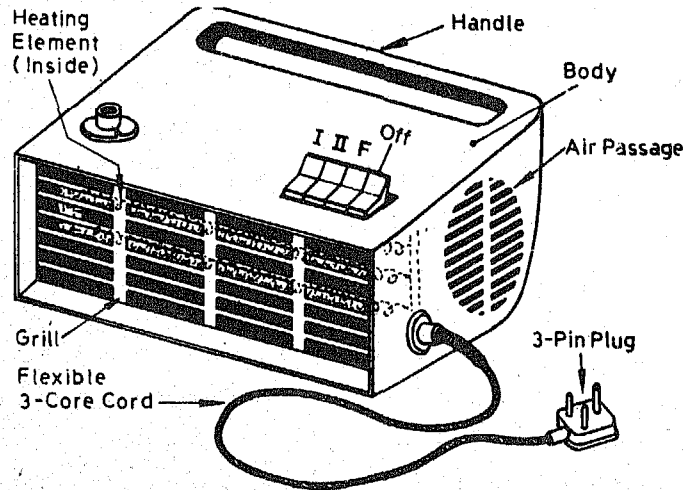

Fig.29.1 Air Heater / Heat Convactor.
- (ii) Observe the fitting of the fan heater and its parts as shown in Fig 29.1.